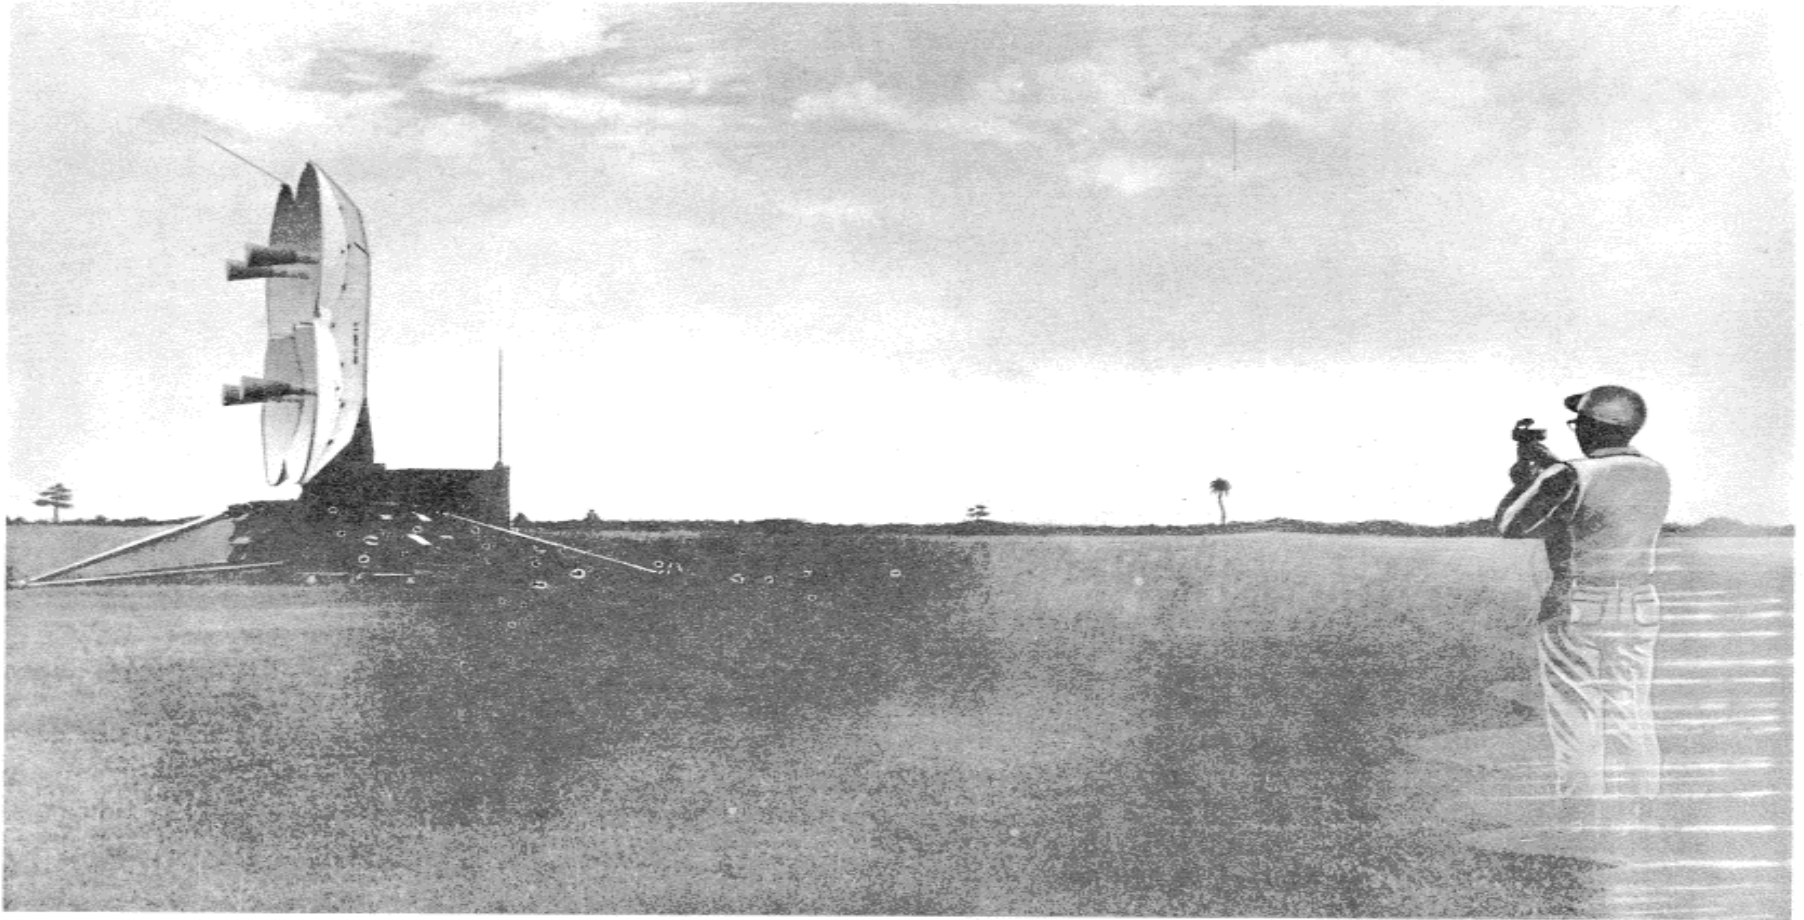

Figure 2-23. Antenna alignment using hand-bearing magnetic compass
- h. Take the hand bearing magnetic compass and walk at least 100 feet south of the antenna. Raise the compass to a comfortable eye-level position (fig. 2-23).